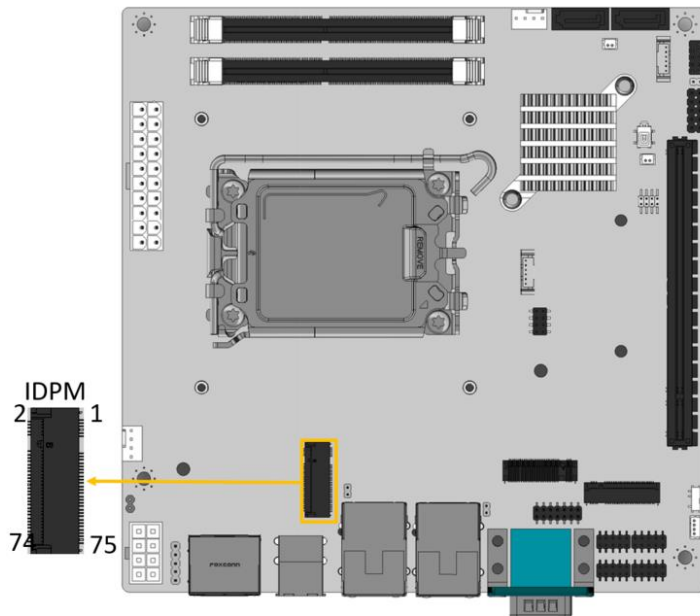

Figure 3-16: IDPM Slot Location
- CN Location:** See Figure 3-16